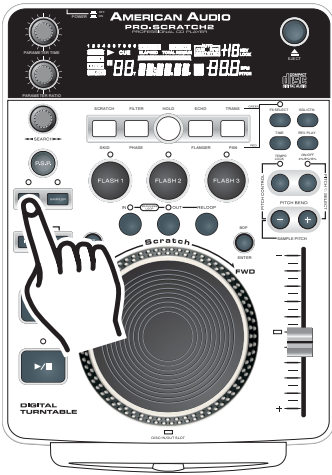

Figure 39
**Adjusting the PITCH SLIDER'S RANGE (33):** You may change the PITCH SLIDER'S (33) operating range at any time. To change the operating range be sure the pitch function is turned on, see figure 39. The pitch percentage can be changed between +/-4%, +/-8%, +/-16%, and +/- 100%. 4% will allow the least amount of pitch manipulation and 100% will allow the most amount of pitch manipulation. To adjust the different values, press and hold down the PITCH ON/OFF BUTTON (26) and Tap on the + PITCH BEND BUTTON (28) until your desired value is reached. The LED above the PITCH BUTTON (26); glowing red for 4%, glowing green for 8%, glowing orange for 16% or flashing green for 100%. Note, the pitch percentage must be activated to get a LED reading.